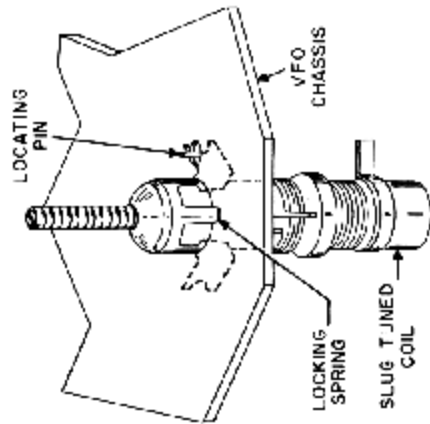

FIGURE 4
- ✗ C-2, trimmer capacitor. Bend the lugs at right angles so they fit into the holes in the chassis. Mount from the top of the chassis with two 4-40 x 3/8" screws, a lockwasher, a solder lug and two nuts. Mount the solder lug on the screw closer to TS-2. Caution: Do not overtighten these screws. See Figure 4 for a top view of the chassis and C-2.
- ☑ L-1, oscillator coil. Mount as shown in Figure 4. Be sure the locating pin is correctly positioned before pushing the locating tab through the chassis.